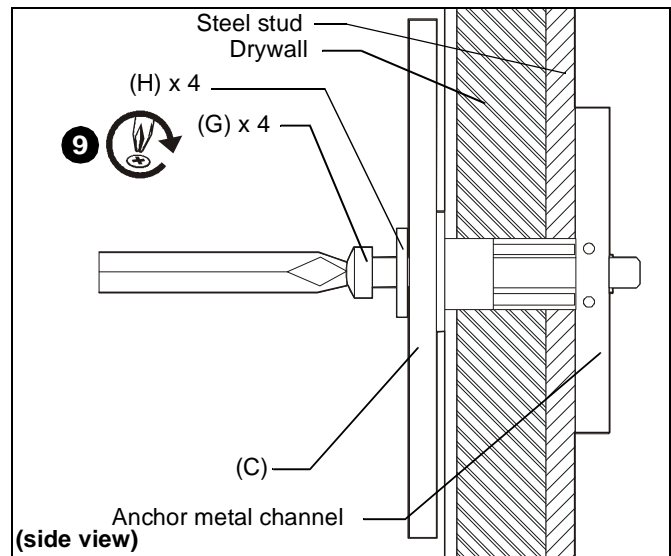

Figure 8
8. Place mounting plate (C) over anchors and align top mounting holes in mounting plate with holes in anchors.
9. Insert 1/4-20 x 1-3/4" Phillips pan head screws (G) through 1/4" washer (H), corresponding mounting hole on mounting plate and into anchor (J) and tighten until flush against mounting plate. DO NOT overtighten! (See Figure 8)